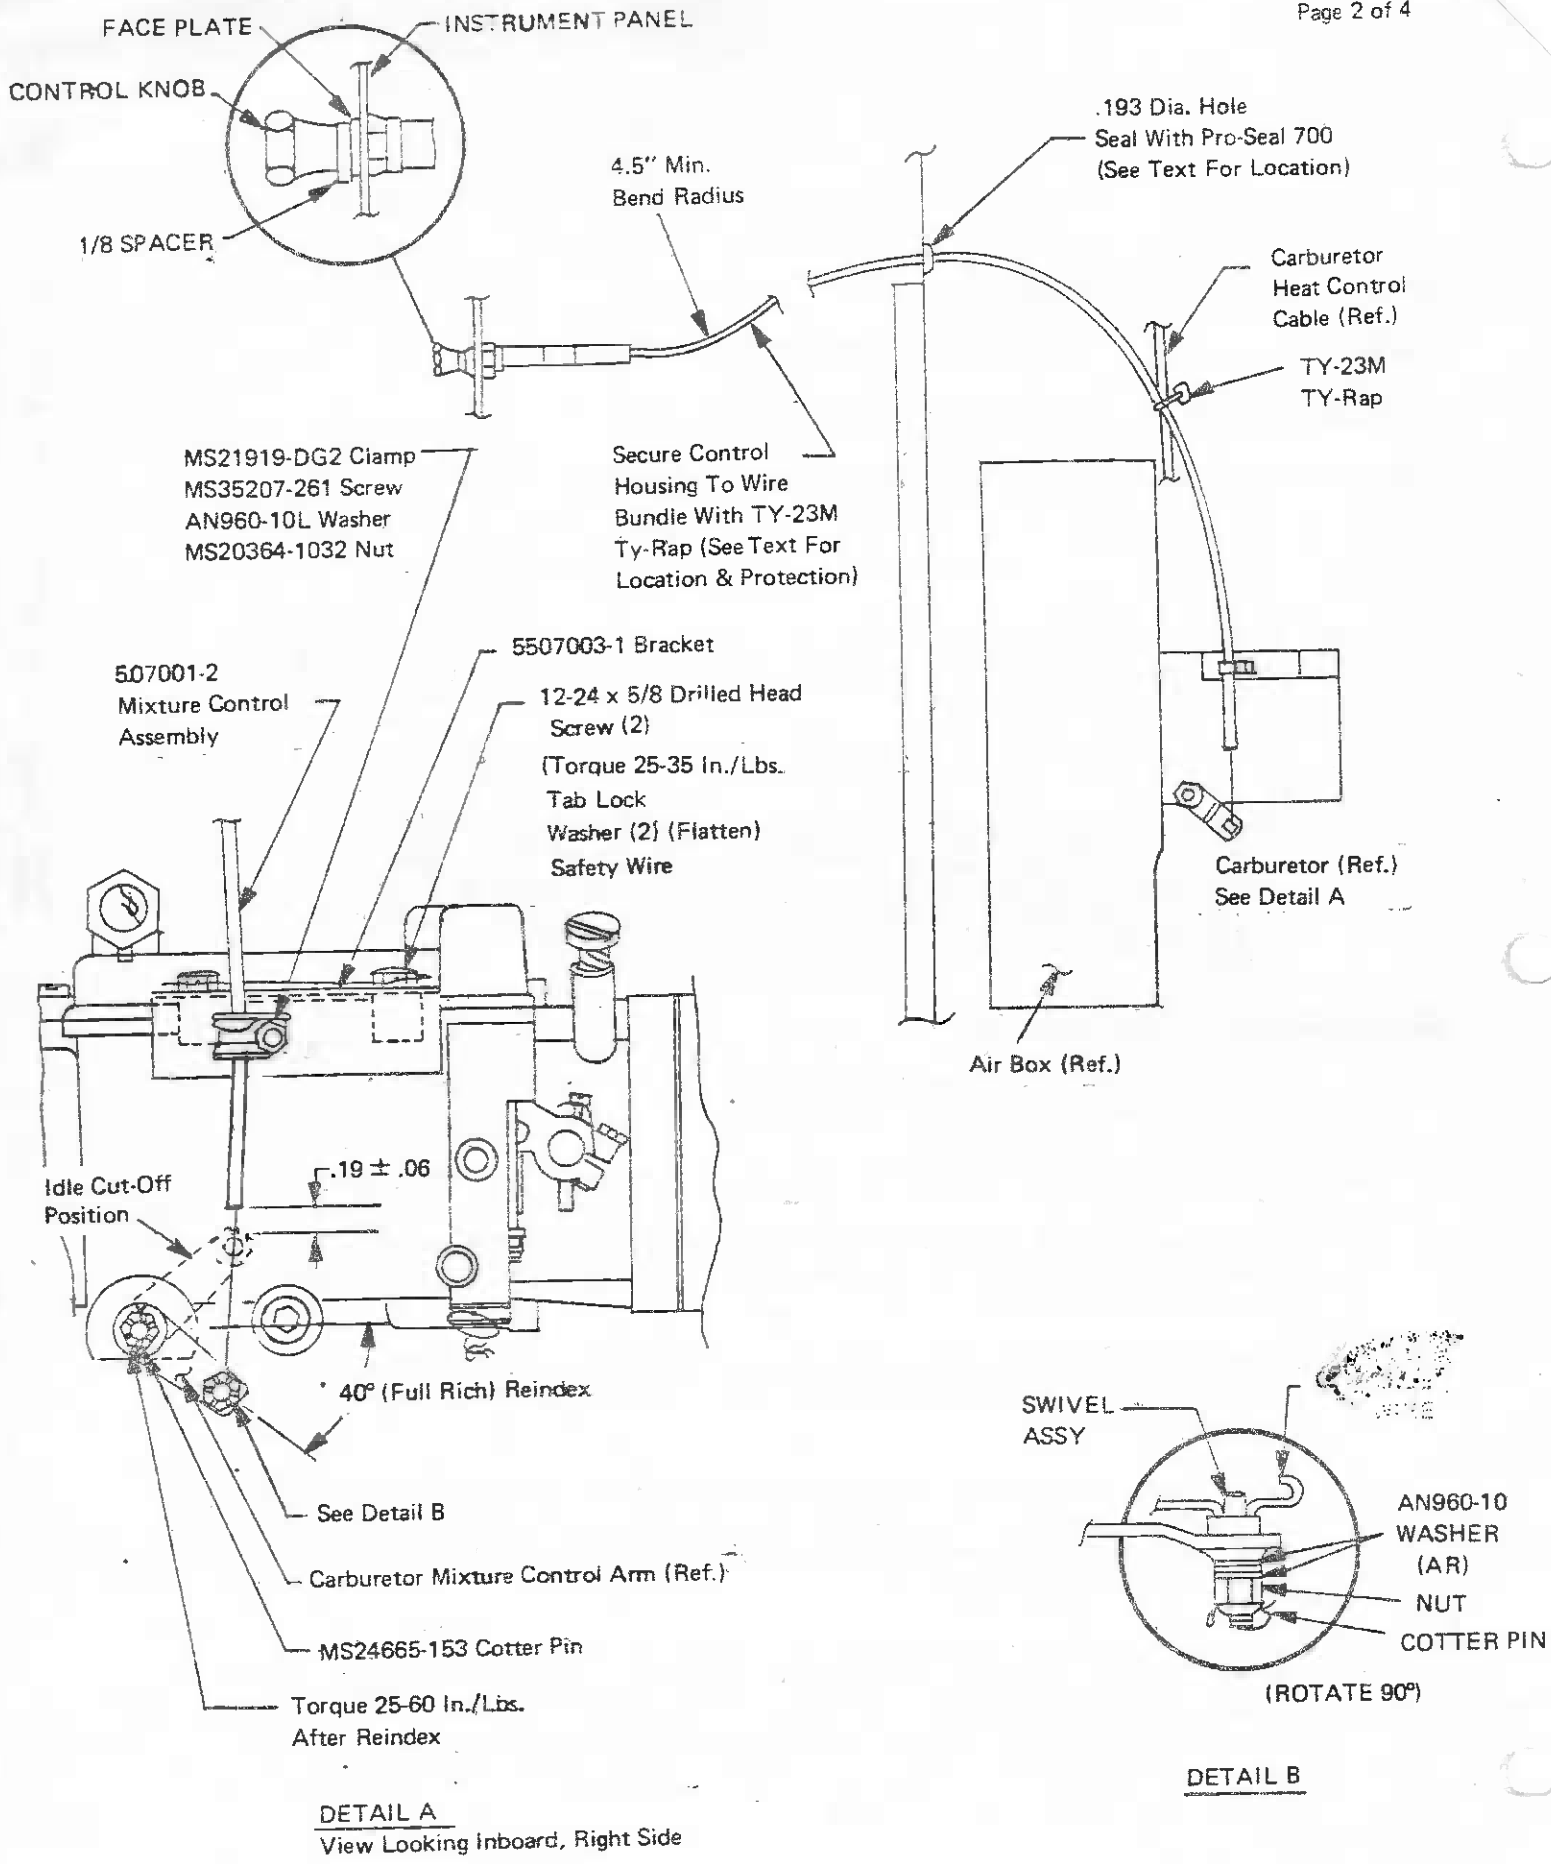

Figure 1. Carburetor Mixture Control Replacement
REPLACEMENT PROCEDURE (See Figure 1)
11. Remove and discard two top screws from right side of carburetor. Remove and flatten tab lock washers. Position 5507003-1 Bracket on carburetor, such that side of bracket with single hole faces down. Secure bracket with two (2) 12-24 X 5/8 drilled head Screws and two (2) Tab lock washers. Torque screws to 25-35 inch pounds and safety wire.
13. Attach mixture control housing to clamp removed from air box, such that clamp seats flat against bracket installed on carburetor. Also, clamp is to be positioned aft of clamp attach hole and is to direct the mixture control housing 90° to the horizontal. Attach clamp with MS35207-261 Screw, AN960-10L Washer and MS20364-1032 Nut. Secure clamp to locate housing $.19 \pm .06$ from mixture control idle cut off position as shown in Figure 1.
17. In the cockpit operate the carburetor mixture control through its full range, making sure it operates freely and smoothly. With the mixture control arm against the full rich stop, there must be 0.125 inch clearance at the control knob as shown in Figure 1.
18. Bend the mixture control wire as shown in Figure 1 and install cotter pin. Cut off excess wire beyond bend.